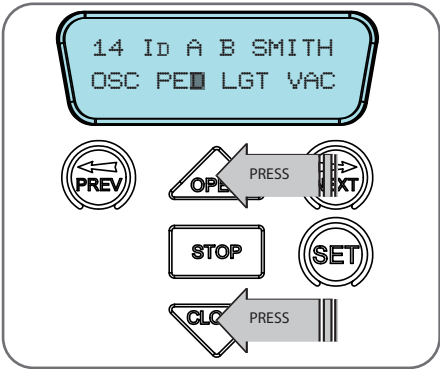

Fig F.2
- b. Press OPEN or CLOSE to change the displayed value (Fig. F.2). The available functions are shown below. Selecting OFF will prevent the opener responding to that button.